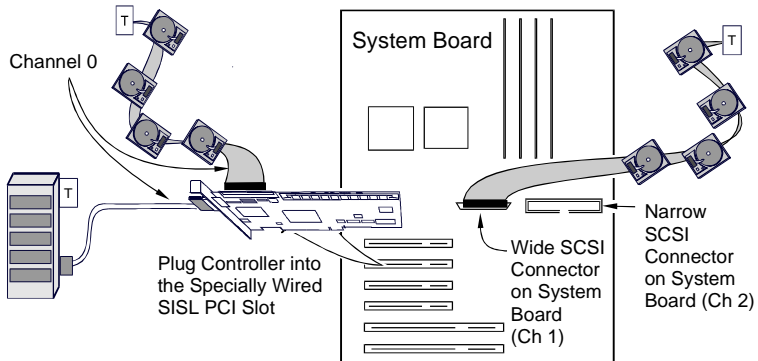

Figure 2-20. AcceleRAID 150 in a Typical SISL Installation
5. Plug the AcceleRAID 150 controller board firmly into the dedicated, prewired SISL PCI slot as shown in Figure 2-20.